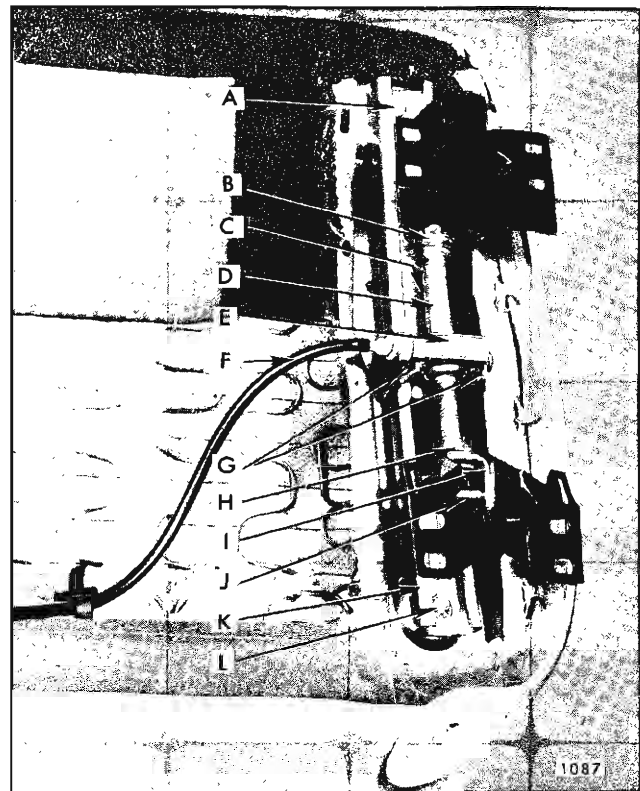

Fig. 1H4—Horizontal Power Adjuster
2. Detach power drive cable from gearnut of adjuster to be removed (Fig. 1H4).
3. Remove seat adjuster-to-seat bottom frame front and rear attaching bolts; then, remove adjuster from seat assembly (Fig. 1H4).